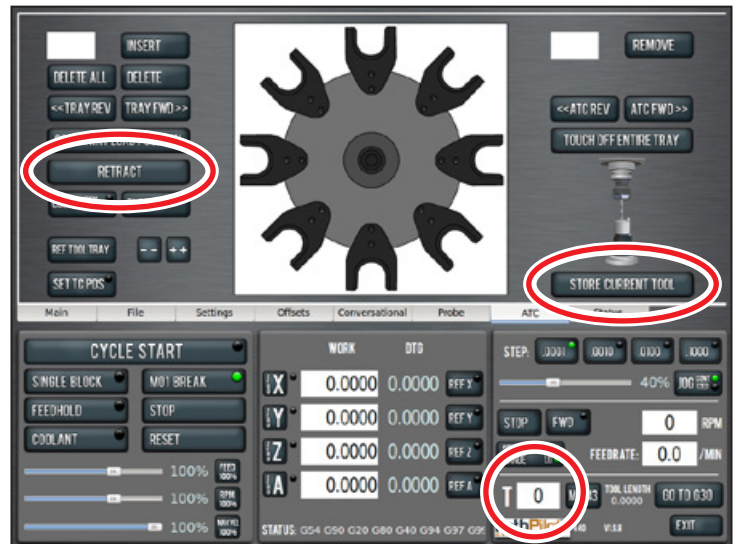

Figure 34
2. From the PathPilot interface, on the ATC tab, type the tool number in the *Tool DRO* field (see **Figure 34**). Press *ENTER* on the keyboard.
The ATC assigns the tool to the nearest open slot, fetches the tool from the spindle, and stores the tool in the tray. The tool number is displayed on the tray image in the center of the screen (see **Figure 34**).
4. Click the *Retract* button (see **Figure 34**). The tray returns to machining position.